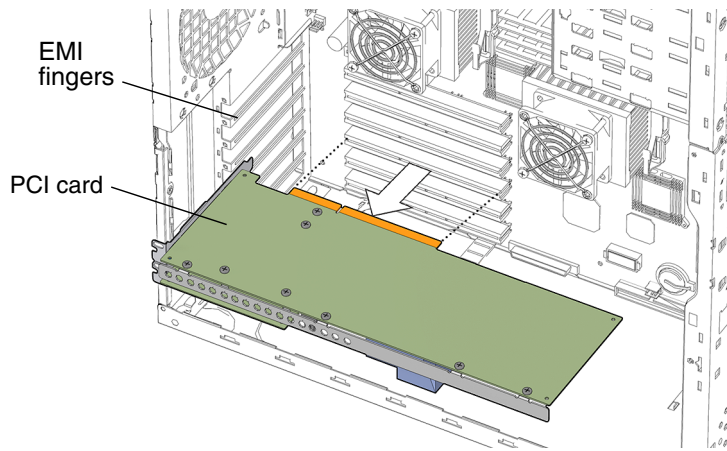

FIGURE 11-29 Removing the PCI Card
6. Remove the PCI card (FIGURE 11-29).